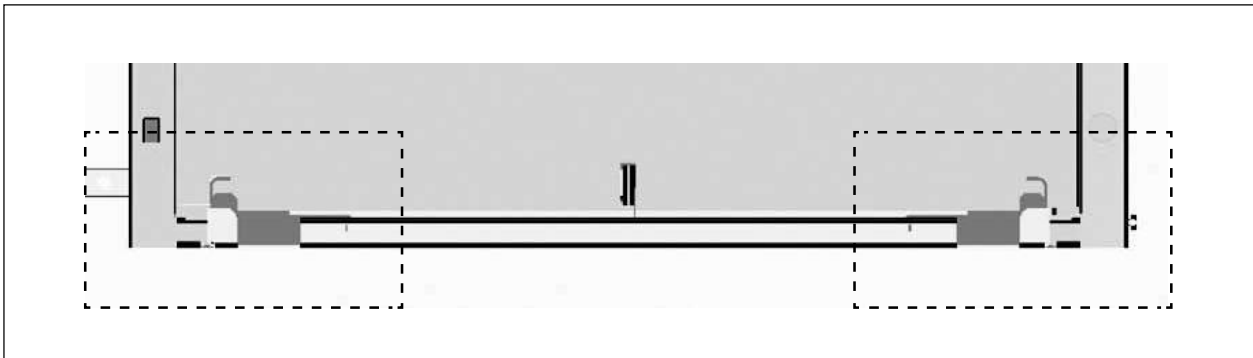

Fig 9b
- Please ensure that the rotating plate is locked at the bottom of the panel as shown in the (Fig. 9b) on both sides, after VCB is racked in. (clockwise for RHS & anticlockwise for LHS)